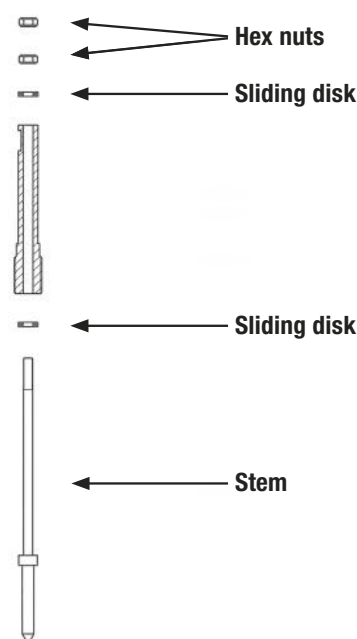

Figure 4
5. Remove the handle from the stem by releasing the threaded pin with an Allen key. Then unscrew the stem from the packing pressure screw. Now remove the two hex nuts and the sliding disk on the upper part of the stem. Dismantle the existing part into its three components. To do this, pull the stem screw and the second sliding disk from the stem. In the case of valves with a larger stem tip, the pressure ring and seal also need to be removed. (see also Fig. 4)